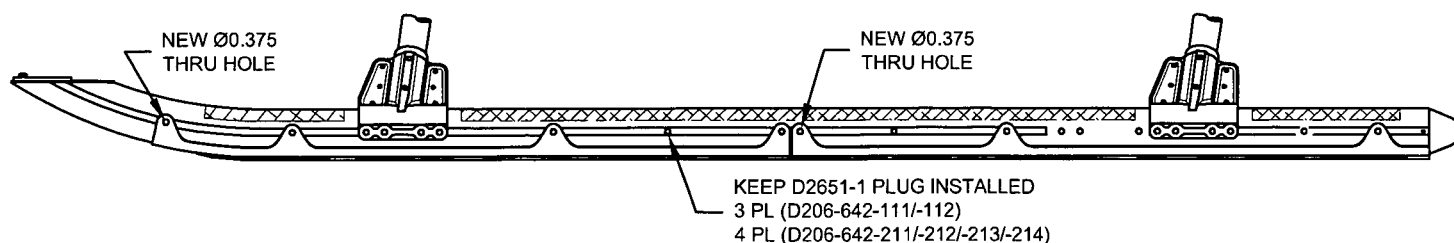

FIGURE 2: D206-642-111/-112/-211/-212/-213/-214 SKIDTUBE MOD
- 9.0.2 Remove qty(10) D2651-1 Plugs where the AN3 Bolts will be inserted to install the run-on landing wearplate assemblies. Refer to Figure 2.
- 9.0.3 Locate and temporarily install the Wearplate Assemblies per Figure 1. On both sides of the skidtube, transfer drill qty(2) Ø0.375" holes from the Wearplate Assembly to the Skidtubes as shown in Figure 2. Countersink the holes on both sides to Ø0.450" X 45°. Deburr.